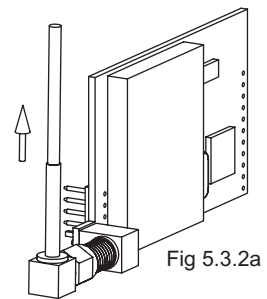

Fig 5.3.2a
- 3) Attach antenna connector to radio board with the cable in the orientation. (figure 5.3.2a) Note, in some RC monitors, cable tie may need to be cut to attach antenna.